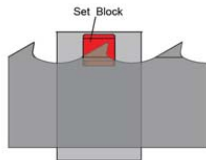

Figure 7.1
7. Jog the setter forward to ensure the next tooth is properly aligned with the setter block (Figure 7.1). If the tooth is slightly out of position, make small adjustments with the index arm until the teeth consistently line up with the setter block.